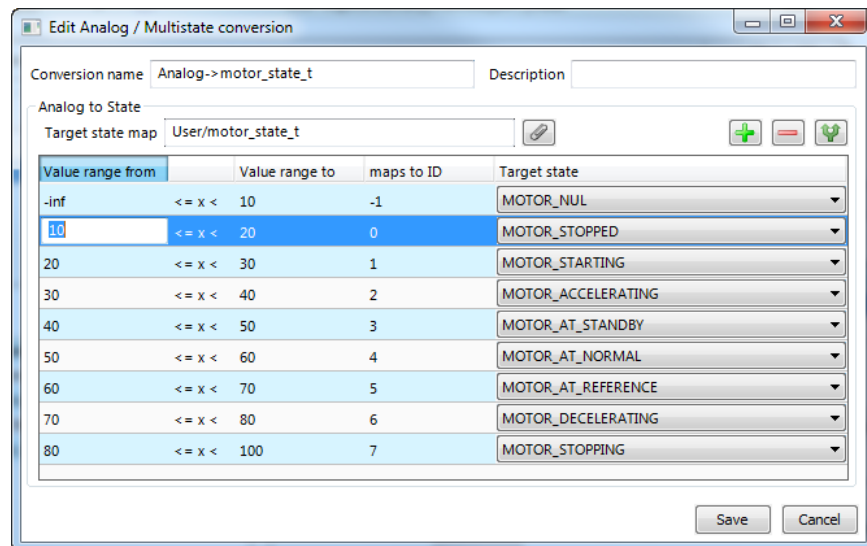

Figure 17: Edit an analog to multi-state conversion.
- An example for editing an analog to multi-state value conversion is shown in Figure 17. Enter a **Conversion name**, then edit the **Value range from** column and select the desired **Target state** mapping.